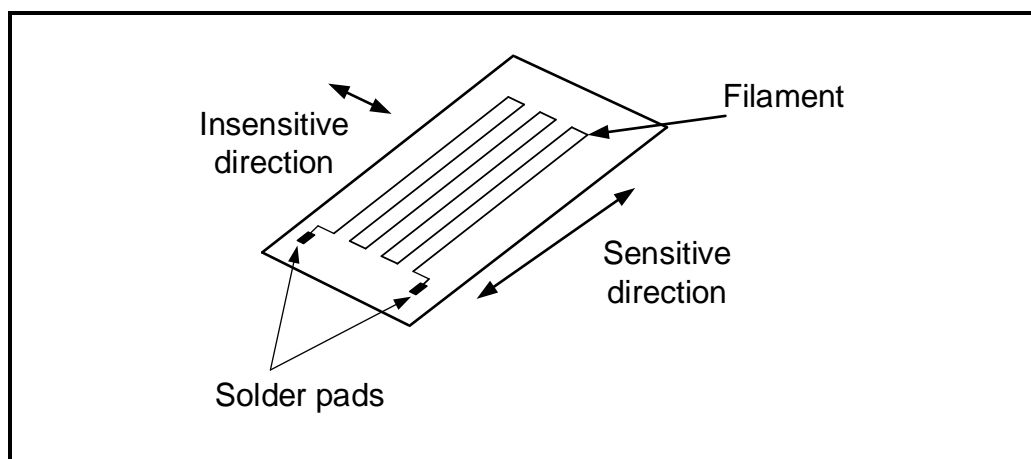

FIGURE 7.4.3: OVERLOAD SENSOR
- 7.4.3 Explain why the overload sensor in FIGURE 7.4.3 is connected to an analogue input on a PLC. (3)